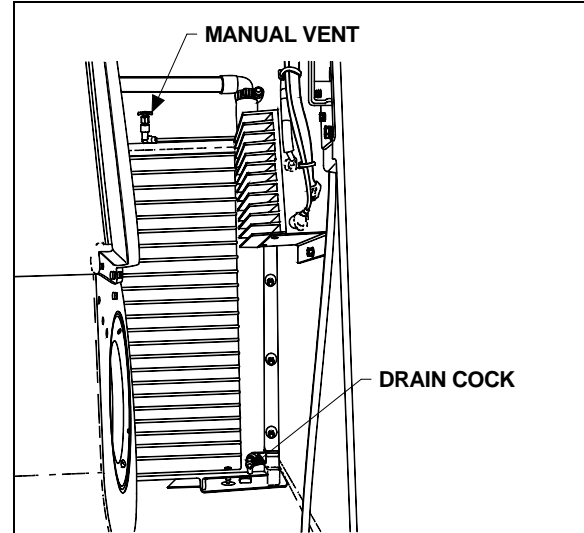

FIGURE 51: EVAPORATOR COMPARTMENT 22128
4. Open drain cock in bottom of heater core, then open manual vent located on top of heater core (Fig. 51) in order to allow air to enter while draining.